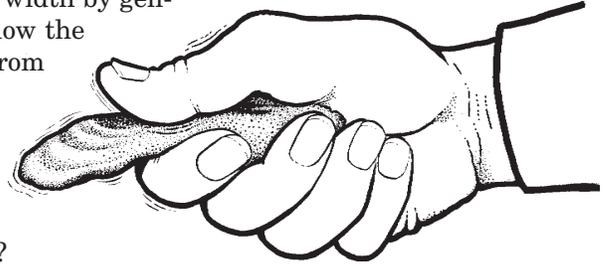

**Figure 1. Hypothetical soil profile showing the letter designation used in describing the major kinds of horizons usually present.**
The term "soil profile" is an important concept to learn. Soil profile is a side view or vertical cross-section of the soil as seen in a ditch bank or dug pit that allows the topsoil and subsoil to be examined. When we look beneath the surface of the soil, we see that the soil is divided into layers or "horizons." These layers differ in color, physical properties, chemical composition, and biological characteristics. This is the soil profile. It has three major parts or horizons: (1) the topsoil or "A" horizon, (2) the subsoil or "B" horizon, (3) the parent material or "C" horizon. A hypothetical soil profile is shown in Figure 1. Most land judging decisions are based on a soil profile that is at least 40 inches deep.